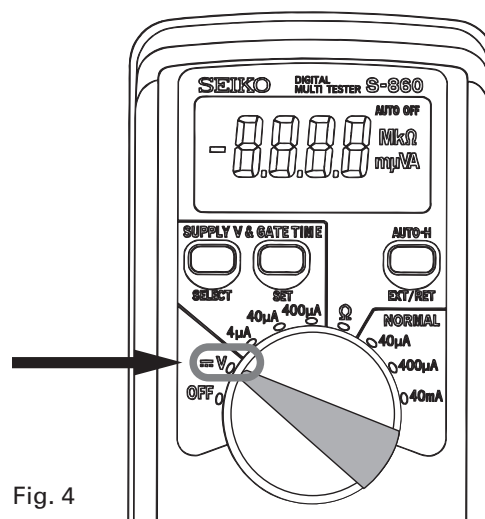

Fig. 4
- * When measuring the voltage using the SEIKO digital multi-tester (S-860), use the range of V (Fig. 4).